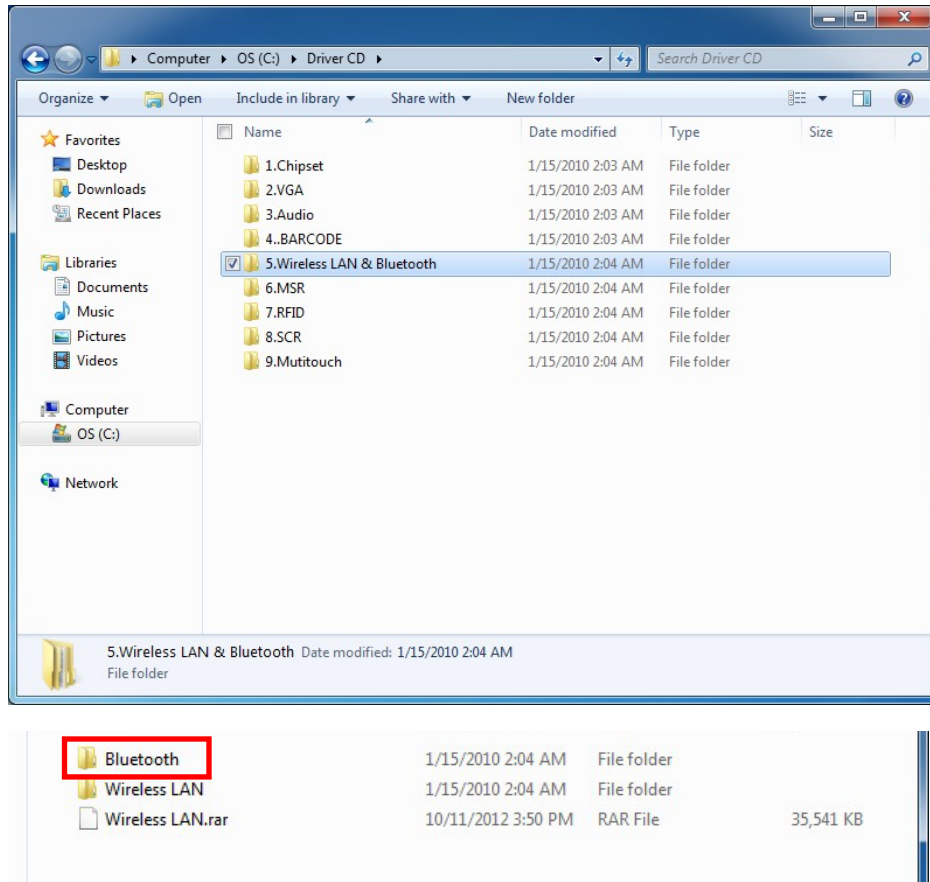

Figure 4-7: Bluetooth Driver Location
Step 1: Select **5.Wireless LAN & Bluetooth** from the list of the driver CD shown in Figure 4-7. Select the Bluetooth folder.